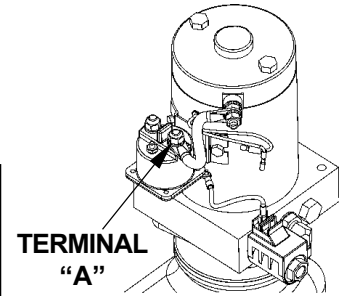

FIG. 39-1
1. Use voltmeter to verify that power is being supplied to Solenoid Terminal "A". Recharge the battery if voltmeter indicates less than 12.6 Volts (FIG. 39-1).